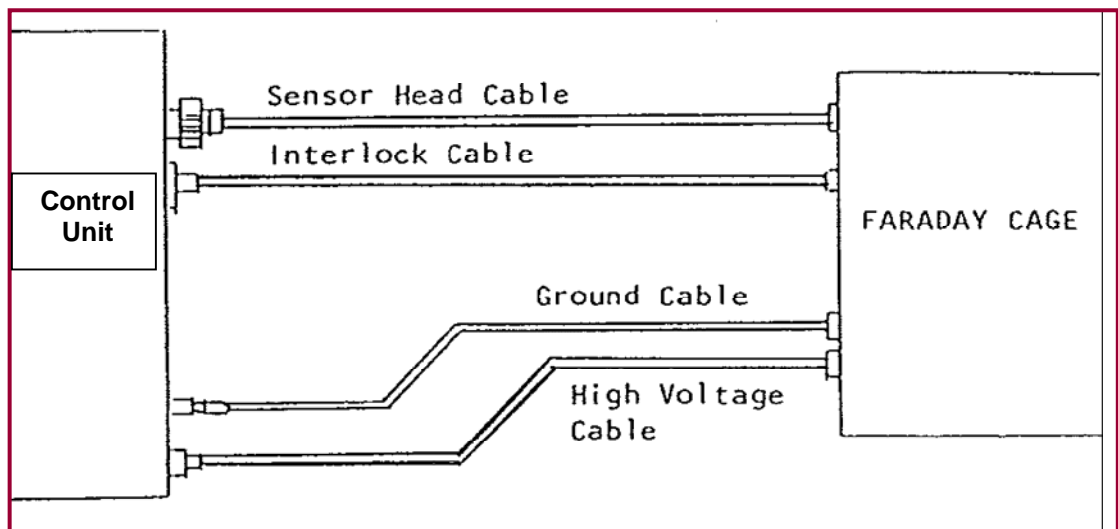

Figure 3.1-1: Faraday Cage – Control Unit Interconnect
1. Before connecting the Static Decay Meter to the AC line, the four cables from the Faraday Cage must be connected to the Control Unit as shown in Figure 3.1-1.